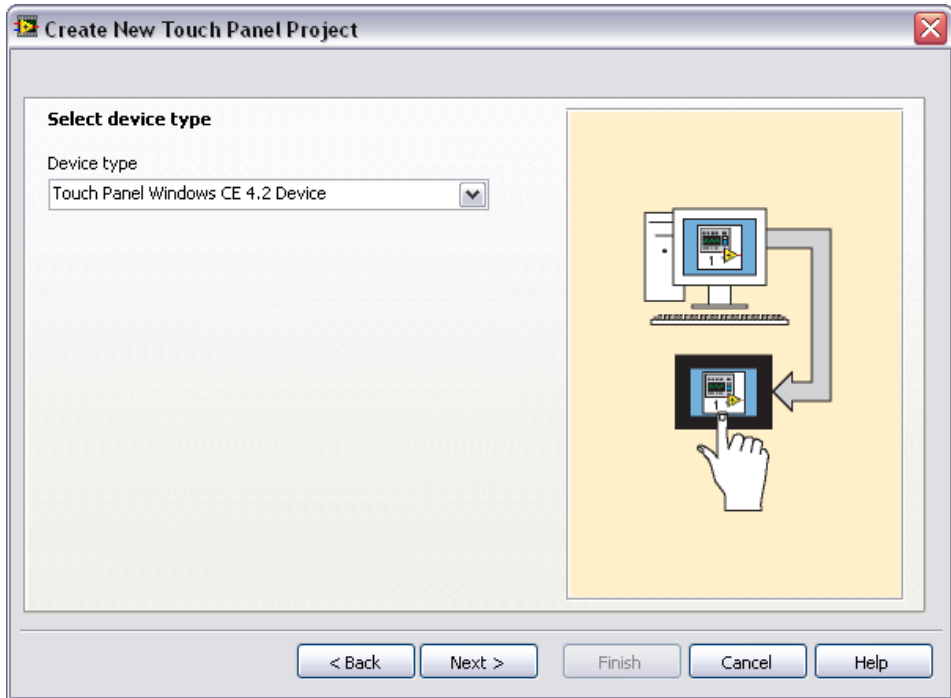

Figure 2. Selecting the Touch Panel Device Type
4. Select the Touch Panel device you are using from the **Device type** pull-down menu as shown in Figure 2.